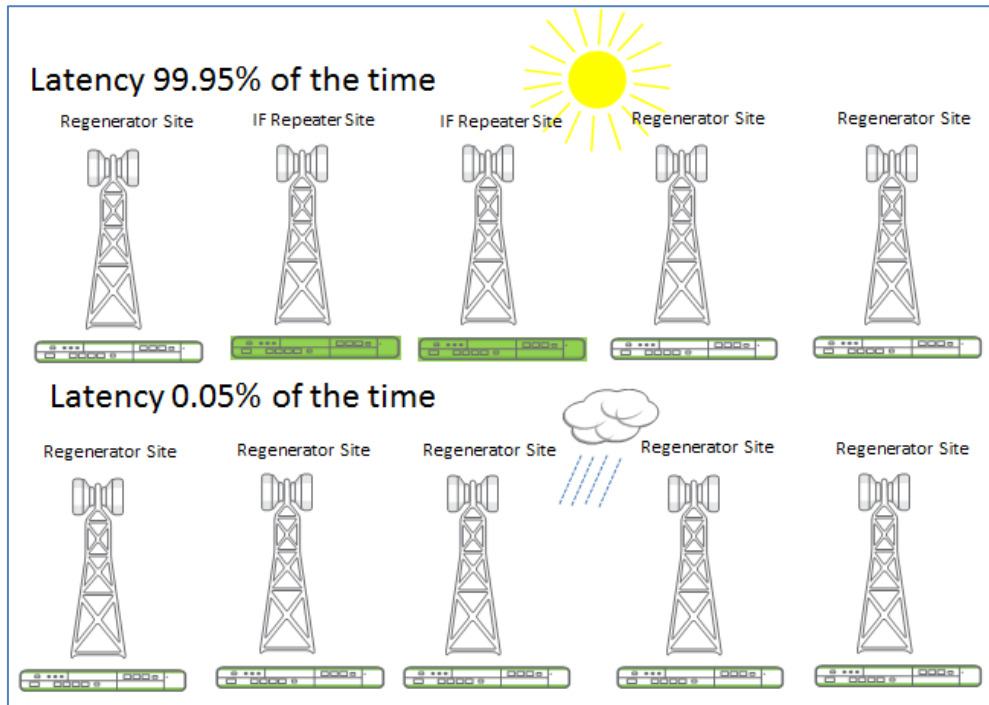

Figure 3. Smart low latency configurations
- **Smart low latency configurations:** In order to minimize latency the solution should have exceptional end-to-end latency, including IF repeater and regenerator configurations. The system should have the capability to smartly change from IF to repeater configuration depending on environmental conditions as shown in figure 3.